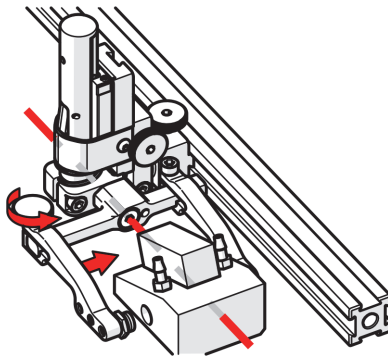

Figure 2-75 Adjust outer arm
2. Loosen the probe holder arm adjustment knob (see Figure 2-75 on page 98) and slide the probe holder arm along the yoke, pinching the wedge in place.